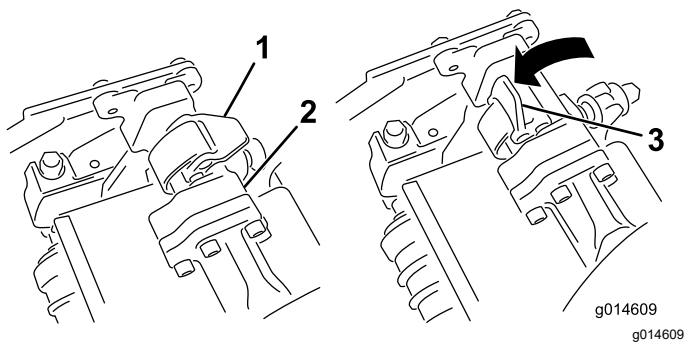
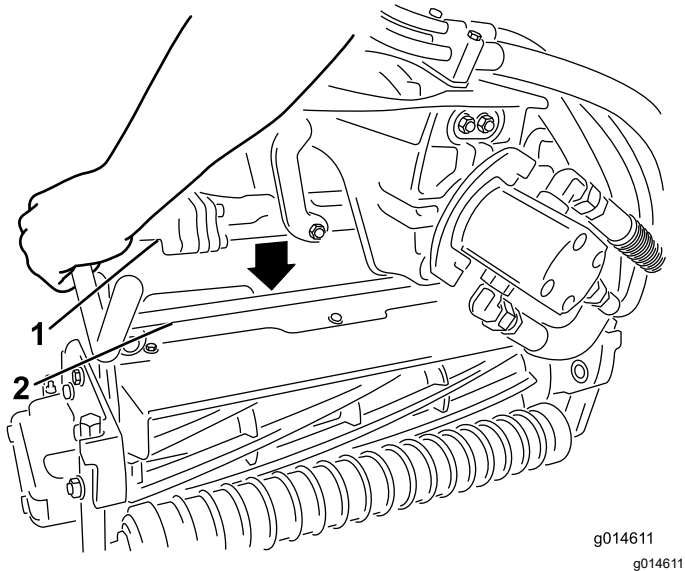

Figure 46
Figure 47
3. With the latches on the suspension-arm bar pointing up (i.e., open) (Figure 46), push the suspension arm down so that the bar fits over the bar across the top of the cutting unit (Figure 47).
4. Close the latches down and around the cutting-unit bar and lock them in place (Figure 46).
4. Open the latches on the suspension-arm bar of the cutting unit you are removing (Figure 46).